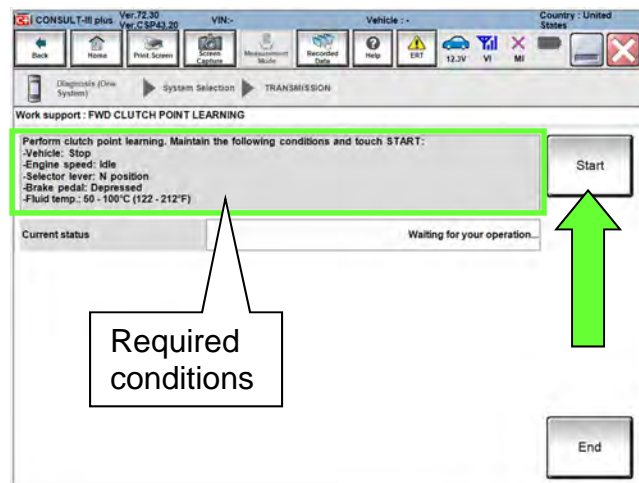

Figure 180
- Confirm that all of the conditions indicated in Figure 180 are being met.
181. While maintaining all conditions shown in Figure 180 and the “Current status” indicates “EXECUTING”, shift the CVT into **R** and then wait until the “Current status” indicates “COMPLETED”.